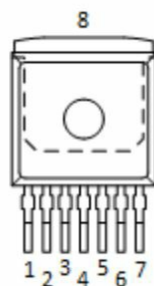

Figure 6 Pin assignment IFX007T (top view)
- **C4, so called DC-link capacitor:** This electrolytic capacitor is required to keep the voltage ripple at the Vs-pin of the NovalithIC™ low during switching operation (the applied measurement procedure for the supply voltage is described in Chapter 2.1 of the Application Note). It is strongly recommended that the voltage ripple at the NovalithIC™ Vs-pin to the GND-pin is kept below 1 V peak to peak. The value of C4 must be aligned accordingly. See Equation 10 in the Application Note. Most electrolytic capacitors are less effective at cold temperatures. It must be assured that C4 is also effective under the worst case conditions of the application. The layout is very important too. As shown in Figure 6, the capacitor C4 must be positioned with very short wiring close to the NovalithIC™. This must be done to keep the parasitic inductors of the PCB-wires as small as possible.